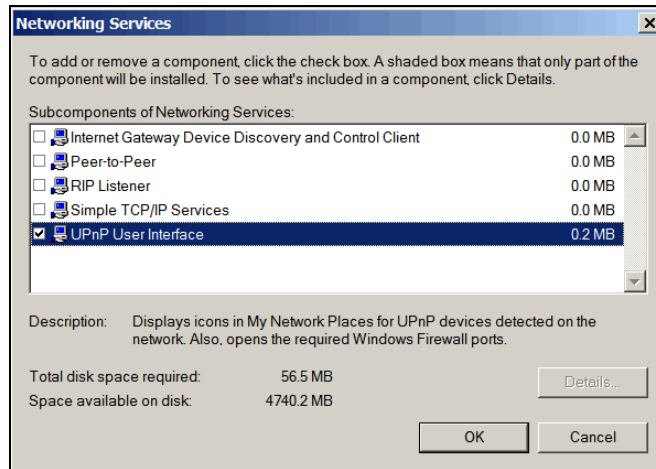

Figure 37 Selecting the Subcomponent of Network Services
5. Select the “UPnP User Interface” check box (Figure 37).